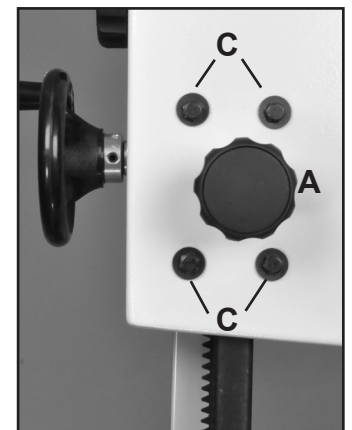

FIGURE 30
4. Loosen the four Hex Bolts (#20E) located at the rear of the top frame. Fig. 30, C). This will allow the